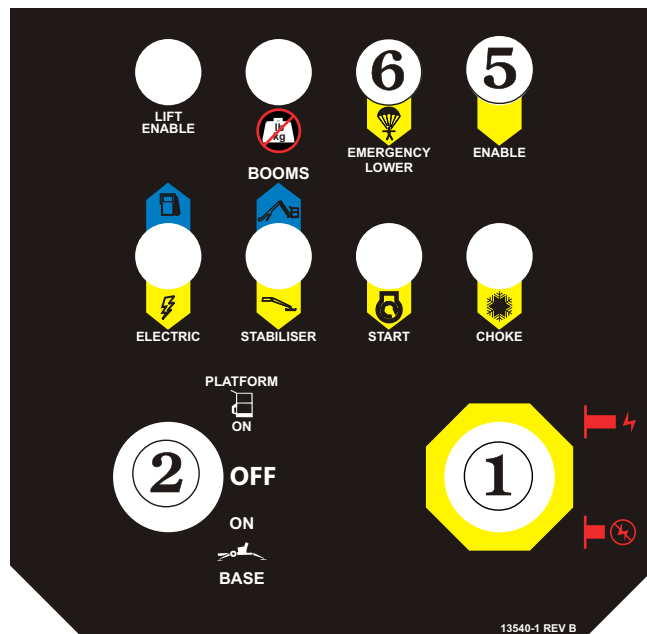

Figure 11.4 - Ground Controls, Machines with Hydraulic Controls
1. The **Emergency Stop** switch **1** must be (ON) (see Figure 11.4).
2. The **Platform/Ground Selector** switch **2** (see Figure 11.4) must be set to GROUND.